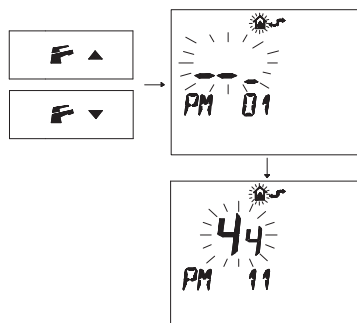

Fig. 8.20
- Press buttons **F** ▼ or **F** ▲ to display the **"PM11"** program of the pump post-circulation (Fig. 8.20).